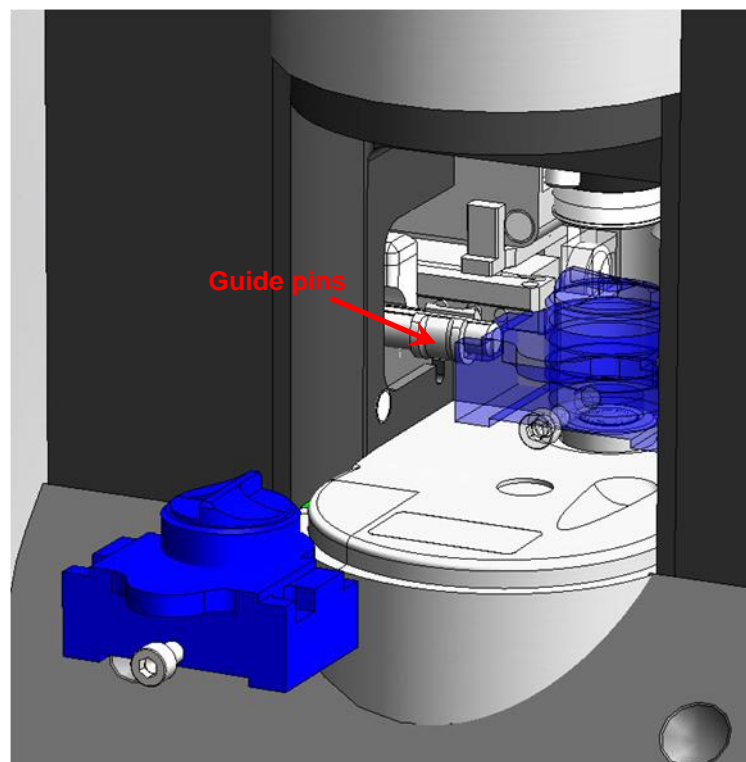

Fig. 2-8. Installing bracket
2. Insert the bracket from the front of the microscope, then lift the bracket so that its cuts are under guide pins of the left and the right heads (see Fig. 2-8).